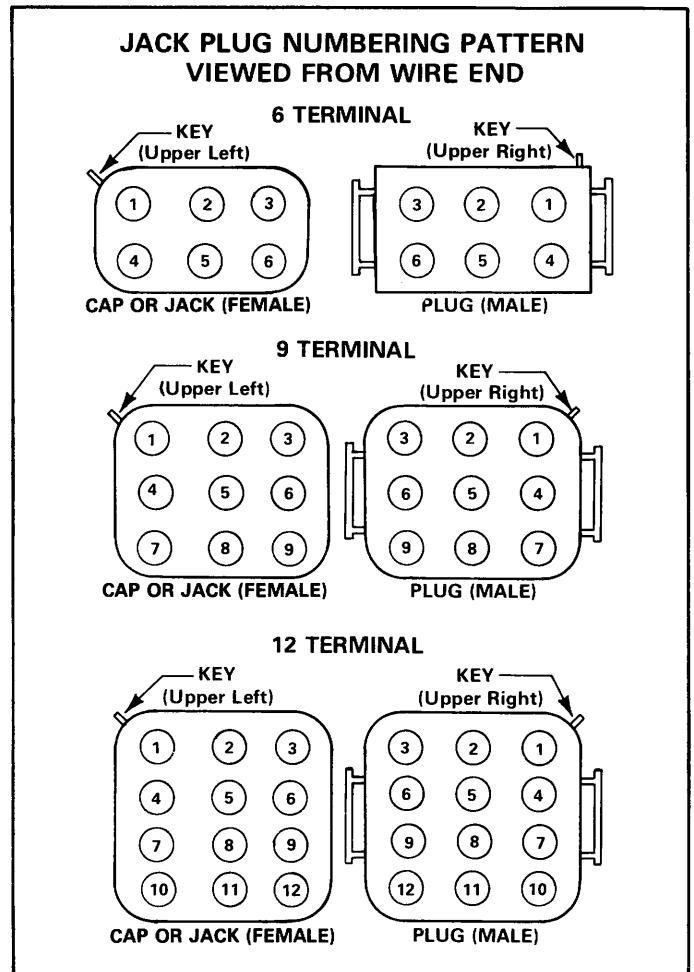

FIGURE 4
- 3 - Terminal numbers on jacks and plugs are located by a ridge on the corner of the plug called the "Key." Refer to Figure 4 for proper numbering sequence.